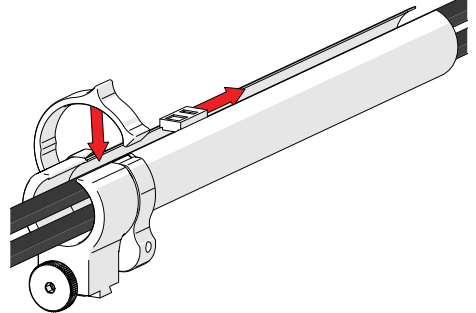

Fig. 96 - Zip up to close
2. Follow the cable placement zipping the tube closed (*Fig. 96*).